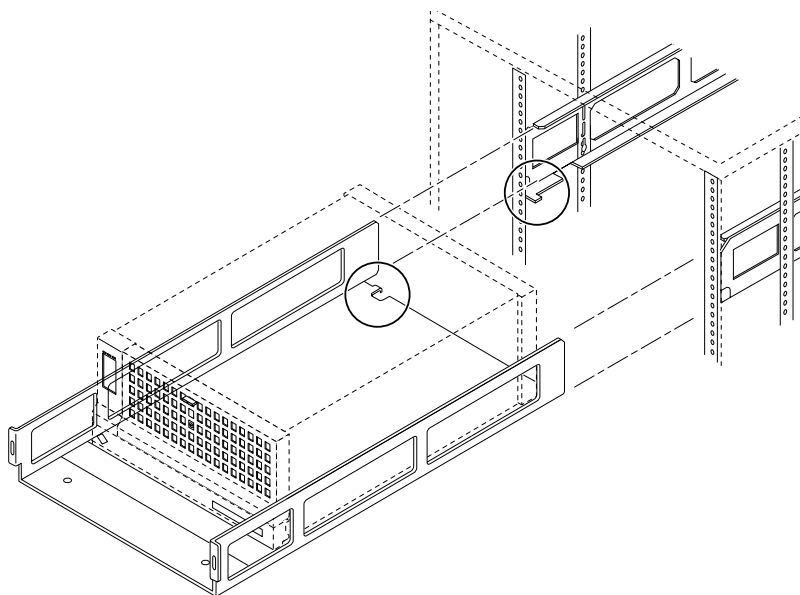

FIGURE 4-6 Aligning the Chassis and Baseplate With the Side Rails
2. Line up the chassis baseplate with the mating side rails in the cabinet (FIGURE 4-6).